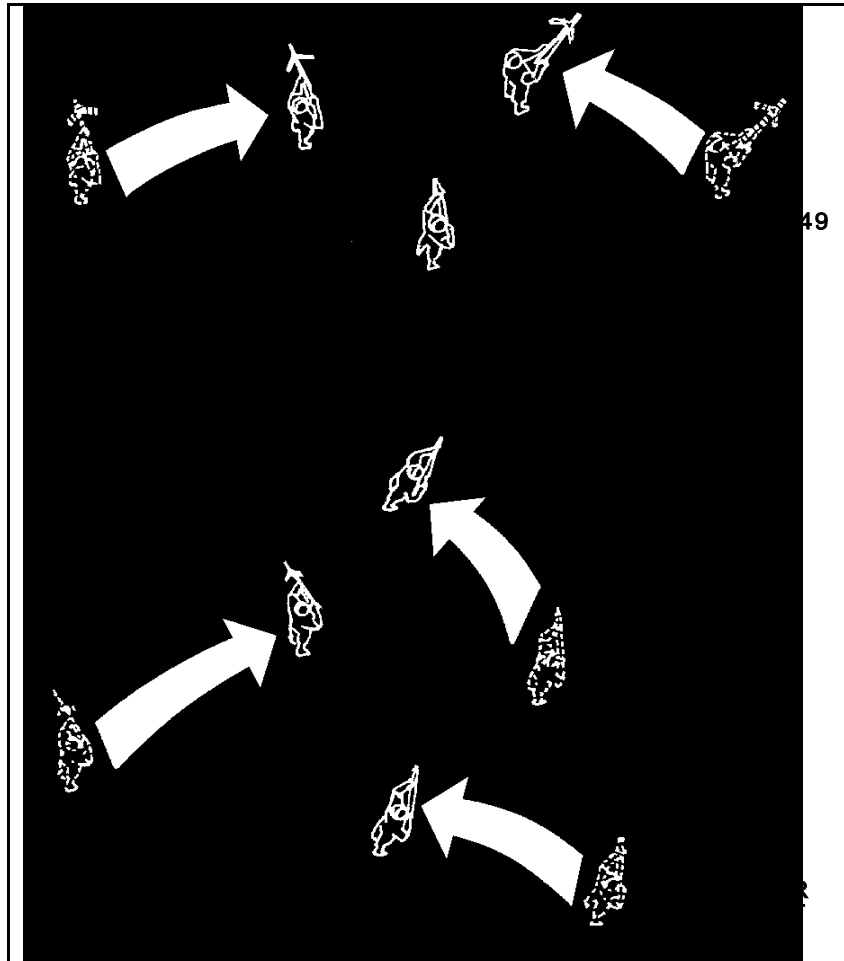

Figure 2. Decreased interval.
5. The sides of the wedge may move farther apart in open, unrestricted terrain, or they may close to almost a single file when moving up a narrow mountain path, through a minefield, around large obstacles, or when visibility is limited. These adjustments are made automatically and without command whenever necessary (Figure 2, page 3-8).